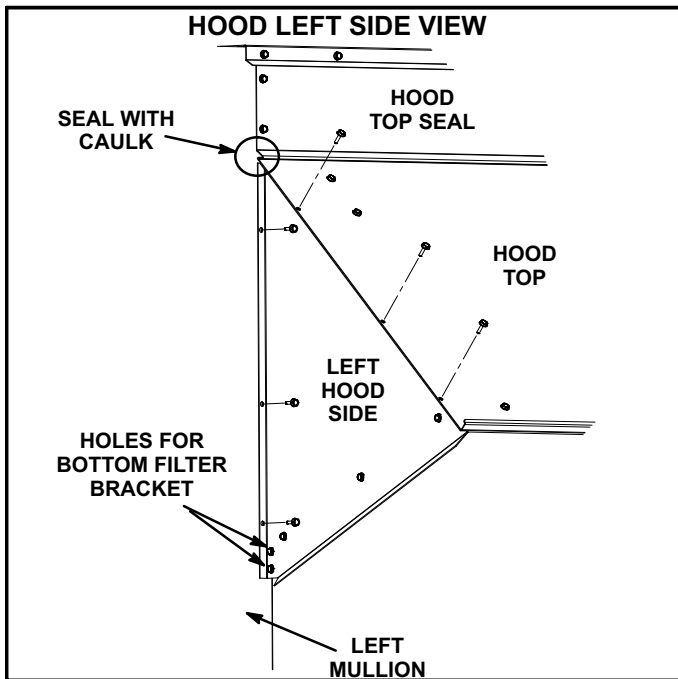

FIGURE 6
- 9- Secure left hood side to the hood top. See figure 6. Secure the left hood side to the unit using three screws removed in step 4. See figure 6.
- 20- Caulk (field-provided) both ends of the top seal and hood top as shown in figures 6 and 7.